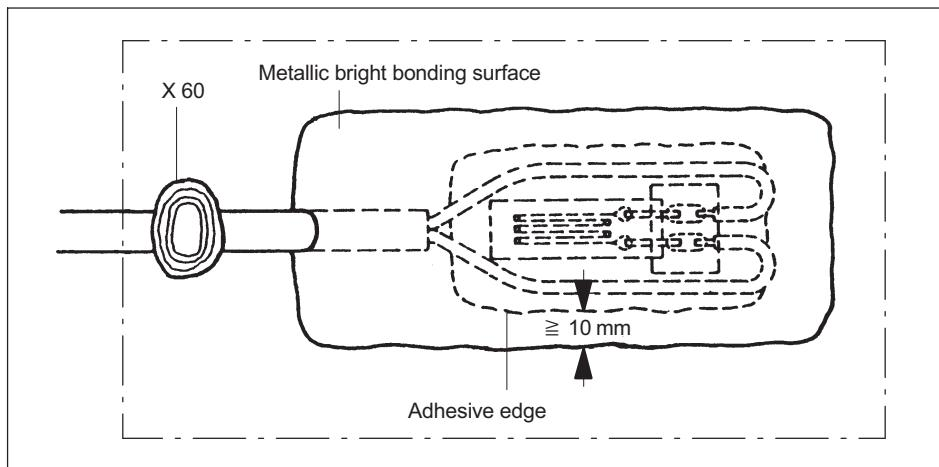

Fig. 4.1 SG measuring point covered with PU140
- The connection cable and the cable sheath in the area of the measuring point must also be degreased. Prepare the cabling of the measuring point as shown in Fig. 4.1 on Page 5.